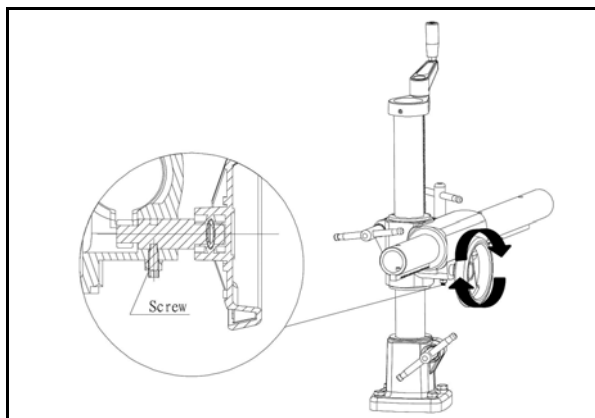

Fig. 8: Fitting the tripod
Step 5: Fasten the guide and turn the handwheel several times to check that it moves smoothly (Fig. 8).